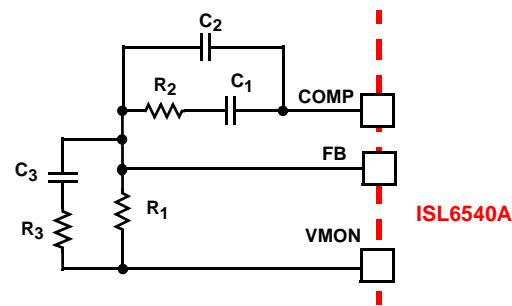
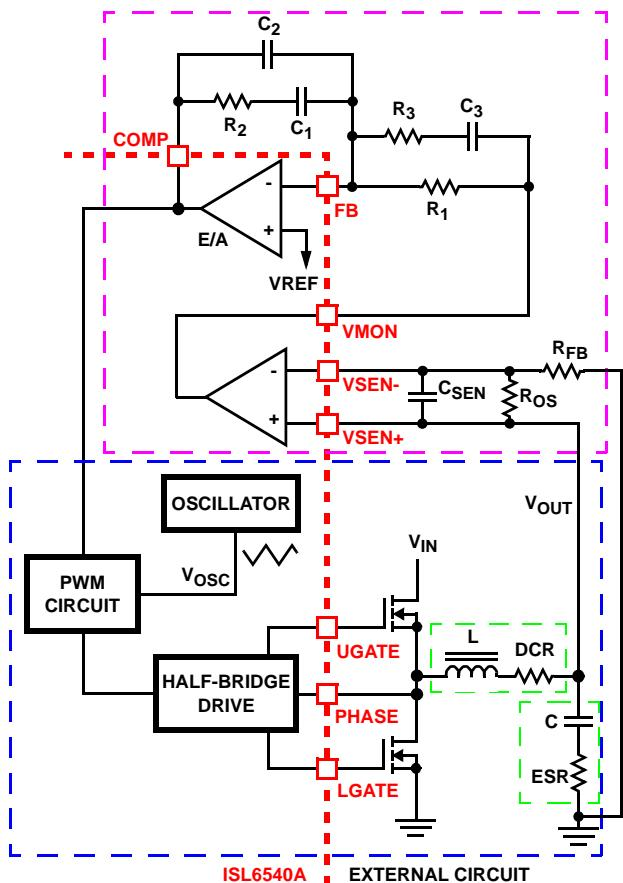

FIGURE 7. COMPENSATION CONFIGURATION FOR ISL6540A WHEN USING DIFFERENTIAL REMOTE SENSE
FIGURE 9. VOLTAGE-MODE BUCK CONVERTER COMPENSATION DESIGN
The ISL6540A single-phase converter is a voltage-mode controller. This section highlights the design considerations for a voltage-mode controller requiring external compensation. To address a broad range of applications, a type-3 feedback network is recommended (see Figure 7).
Figure 9 highlights the voltage-mode control loop for a synchronous-rectified buck converter, when using an internal differential remote sense amplifier. The output voltage (V_{OUT}) is regulated to the reference voltage, V_{REF} , level. The error amplifier output (COMP pin voltage) is compared with the oscillator (OSC) triangle wave to provide a pulse-width modulated wave with an amplitude of V_{IN} at the PHASE node. The PWM wave is smoothed by the output filter (L and C). The output filter capacitor bank's equivalent series resistance is represented by the series resistor ESR.
frequency (F_0 ; typically 0.1 to 0.3 of F_{SW}) and adequate phase margin (better than 45°). Phase margin is the difference between the closed loop phase at F_{0dB} and 180°. The equations that follow relate the compensation network's poles, zeros and gain to the components (R_1 , R_2 , R_3 , C_1 , C_2 , and C_3) in Figures 7 and 9. Use the following guidelines for locating the poles and zeros of the compensation network:
1. Select a value for R_1 (1kΩ to 10kΩ, typically). Calculate value for R_2 for desired converter bandwidth (F_0). If setting the output voltage to be equal to the reference set voltage as shown in Figure 7, the design procedure can be followed as presented. However, when setting the output voltage via a resistor divider placed at the input of the differential amplifier (as shown in Figure 9), in order to compensate for the attenuation introduced by the resistor divider, the below obtained R_2 value needs to be multiplied by a factor of $(R_{OS}+R_{FB})/R_{OS}$. The remainder of the calculations remain unchanged, as long as the compensated R_2 value is used.
A small capacitor, C_{SEN} in Figure 9, can be added to filter out noise, typically C_{SEN} is chosen so the corresponding time constant does not reduce the overall phase margin of the design, typically this is 2x to 10x switching frequency of the regulator. As the ISL6540A supports 100% duty cycle, d_{MAX} equals 1. The ISL6540A also uses feedforward compensation, as such V_{OSC} is equal to 0.16 multiplied by the voltage at the VFF pin. When tying VFF to V_{IN} , the Equation 12 simplifies to: